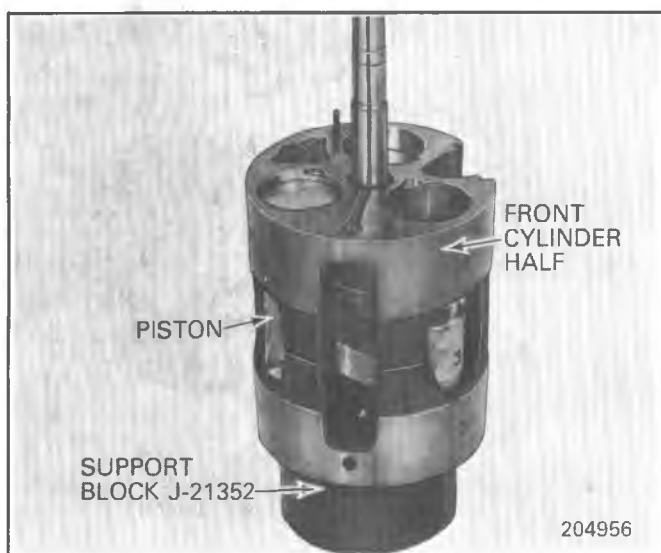

Fig. 1D-30 Numbering A-6 Piston and Cylinder Bores
2. Identify by pencil mark, or some other suitable means, each piston numbering them as 1, 2 and 3 (Fig. 1D-30).